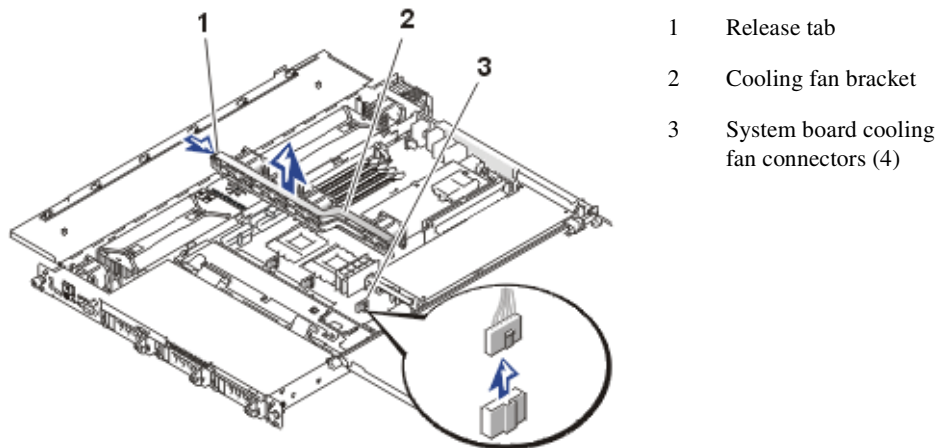

Figure 4-6: Removing the Cooling Fan Bracket
2. Remove the cooling fan bracket (see Figure 4-6).
5. Lift the fans straight up out of the fan bracket (see Figure 4-6).
Ensure that the finger guard on the fan faces the back of the system and the fan cable points toward the fan power cable connector on the system board (see Figure 4-6).